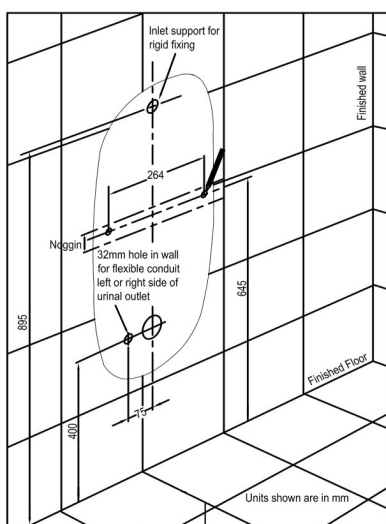

Fig. 1
2. Fit timber noggin into wall cavity to support urinal mounting brackets (Fig. 1)
1. Ensure rough-in wall details have been completed first as detailed in Figs. 1 and 2